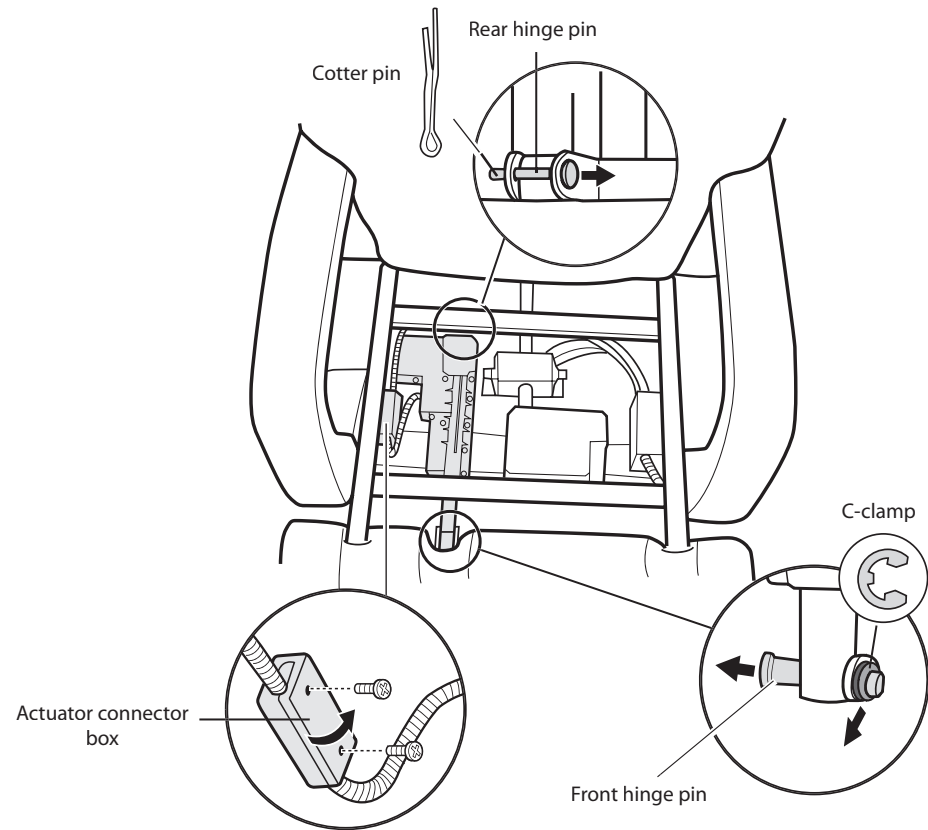

Fig.7
1. Locate the actuator connector box then, using a Phillips-head screwdriver, remove the two screws (Fig.7).
3. Locate the rear actuator hinge pin (Fig.7).
5. Locate the front actuator hinge pin (Fig.7).
6. Using a needle-nosed pliers, remove the C-clamp from the top of the hinge pin, then use a pliers to pull the hinge pin out of the bracket (Fig.7).